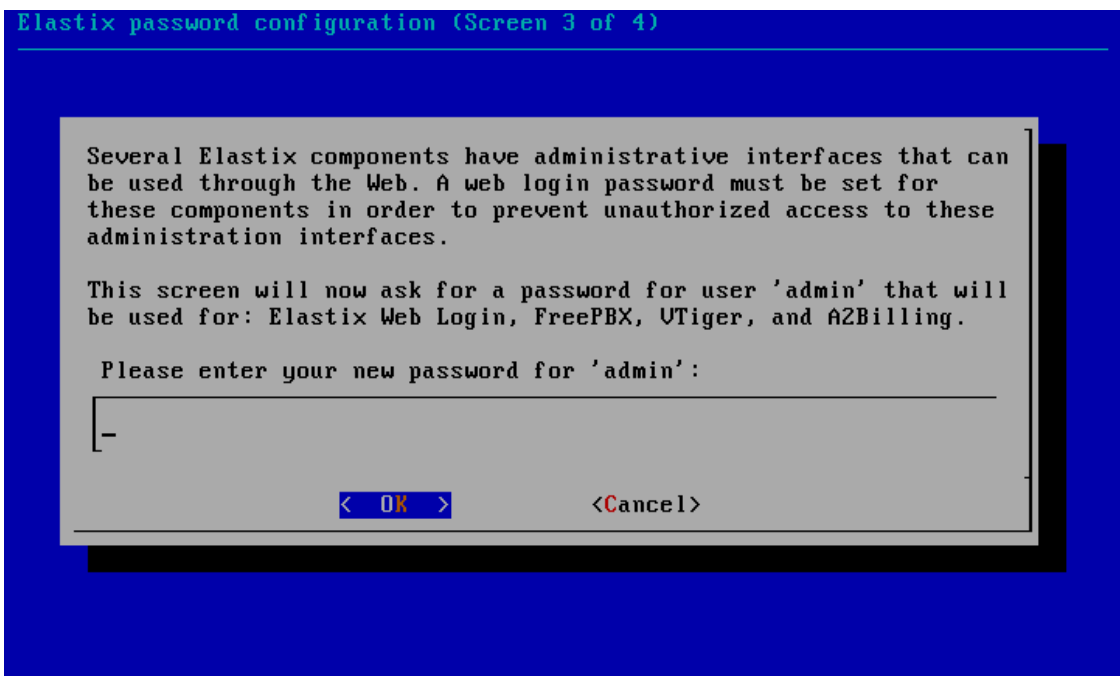

Figure 16
16. Also in the startup process, the following prompt will pop up to ask for a web login password. Here we can set any password as we want, such as 'admin' (Figure 16).
In the address bar of the browser, enter the IP address of the Elastix system to go into the initial interface of Elastix (see Figure 17). Enter the administrator username **admin** and the password **admin** (refer to the password shown in Figure 16) to reach the configuration and management interface.